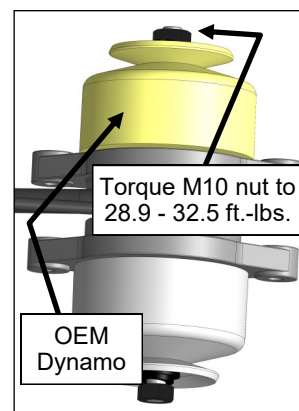

Fig. 2.3
- 2.3 Suggestion: Hold a 5/8" open-end wrench sideways in a bench vise for this step. Per fig. 2.3, orient the dynamo assembly vertically so the OEM dynamo is on top. Place the dynamo assembly into the open end of the wrench so the flats on the shaft fit properly. Ensure that the flat washer is centered on the shoulder of the shaft when tightening. Torque the M10 hex nut to 28.9 - 32.5 ft.-lbs. (39.2 - 44.1 Nm) on the OEM dynamo.